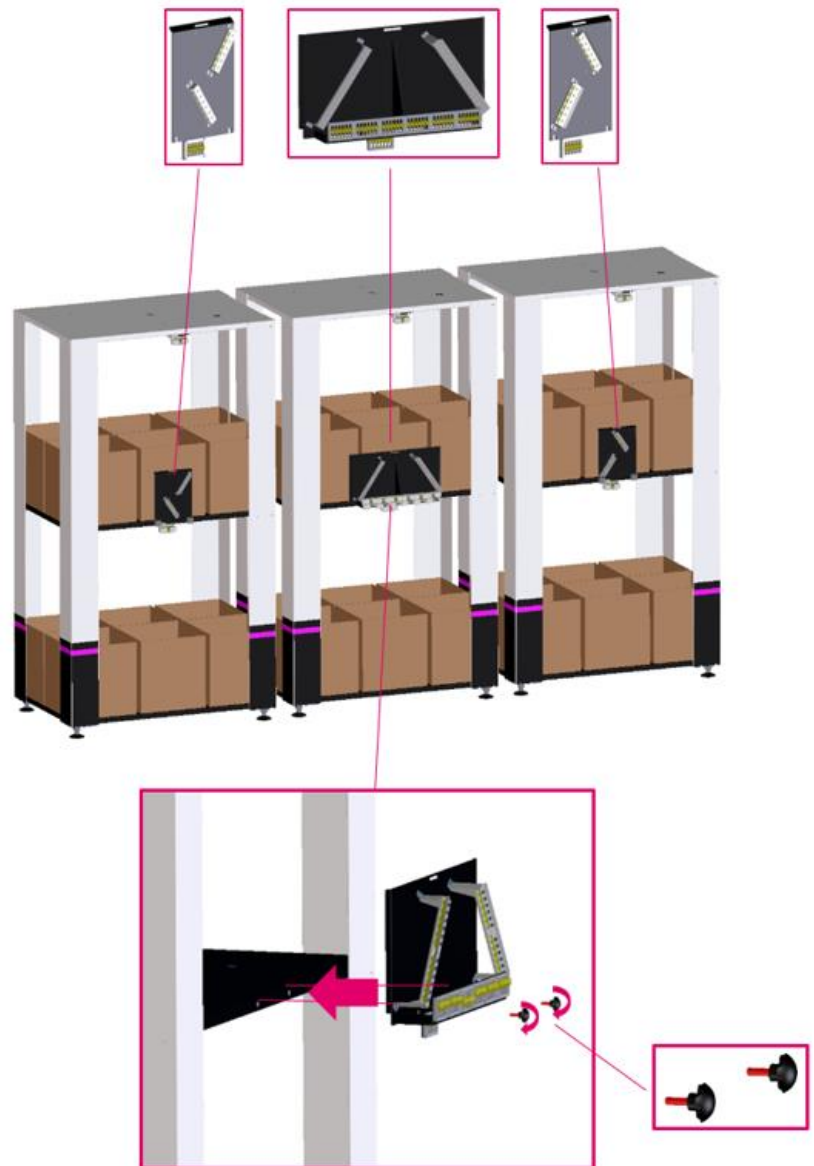

Fig. 11: Mounting deflections on Wire Storage
2. Mount the deflection for the central unit (XL) and for the additional module (XL) to the Wire Storage (XL) as shown in Fig. 11